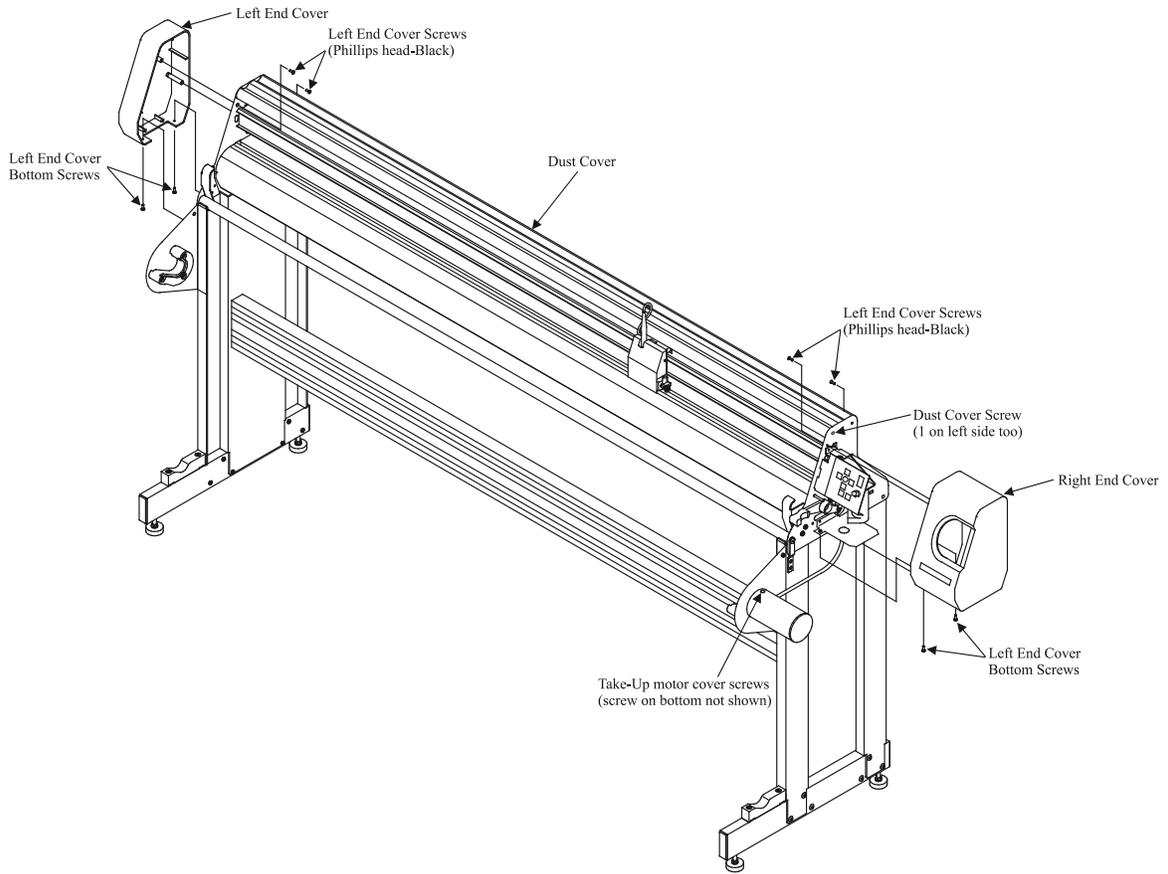

Figure 1. Removing the End Covers
3. Remove the two black phillips head screws, and the two silver phillips head screws on the bottom of the cover, then remove the right cover. *See figure 1.*
4. Remove the two black phillips head screws, and the two silver phillips head screws on the bottom that hold the left cover on the machine then remove the left cover. *See figure 1.*